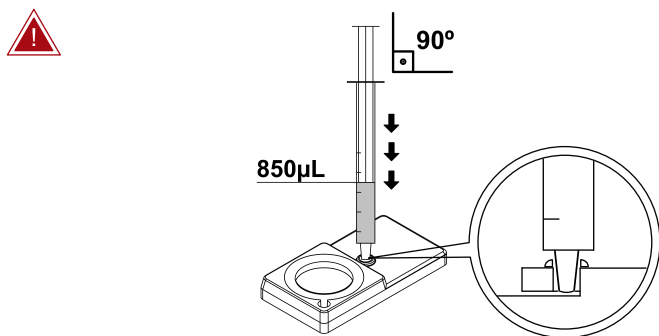

Figure 2. Fill the bottom chamber with 850  $\mu$ L semen sample.
5. Hold the syringe in a vertical position, carefully insert the tip into the inlet and apply gentle pressure to achieve a seal. Be careful to avoid the formation of bubbles under the membrane (Figure 2).